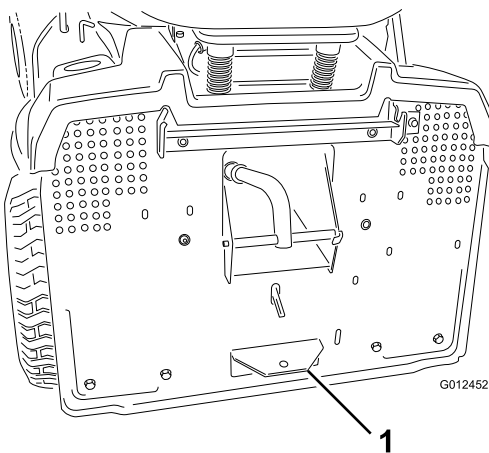

Figure 20
2. Install the attachment to the towing hitch located at the lower rear part of the machine (Figure 20).